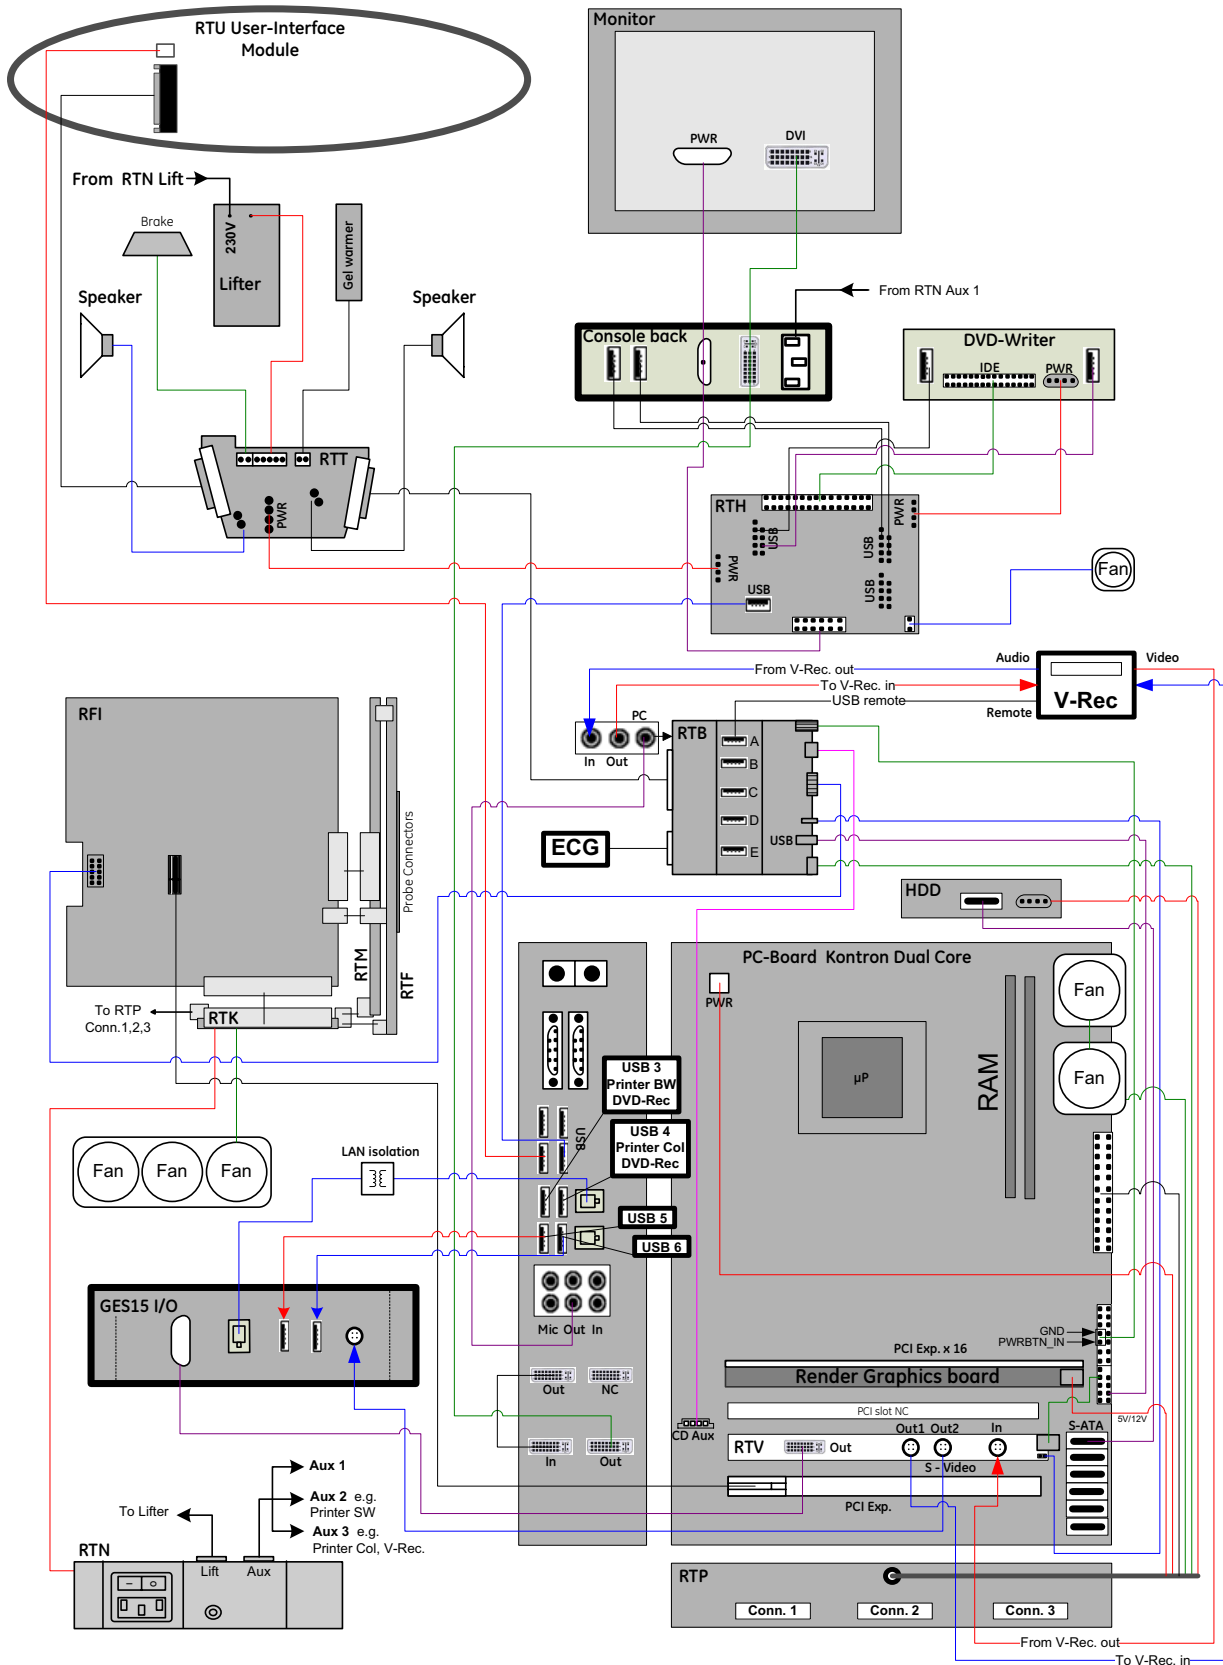

Figure 5-18 Voluson E8 (BT09): Internal I/O - KONTRON Dual-core PC-Motherboard
- “Kontron Dual-core” PC Motherboard is installed, see: Figure 5-18 on page 5-42.